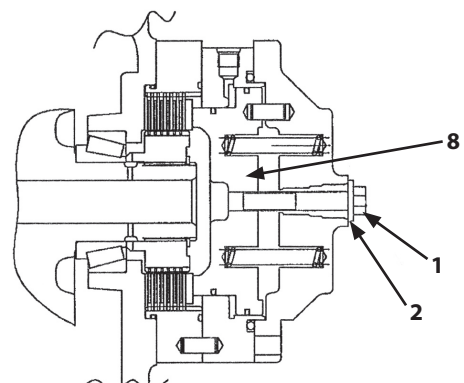

Fig. 3
2. Remove the plug (3) from the center of the cap.
3. Remove the both ends of the tube (4), oil is prevented from flowing out.
4. Remove the elbow (6).
5. Remove the orifice (7).
6. Remove the parking brake release bolt (1) and plane washer (2) from the parking brake cap of the transmission.
7. Insert the remove bolt (1) and plane washer (2) through the hole from where the orifice was remove in step 5, into the screw hole at the center of the brake piston (8) as shown in fig. 3.
8. Tighten the release bolt (1) to withdraw the brake piston (8), thus releasing the disc brake.